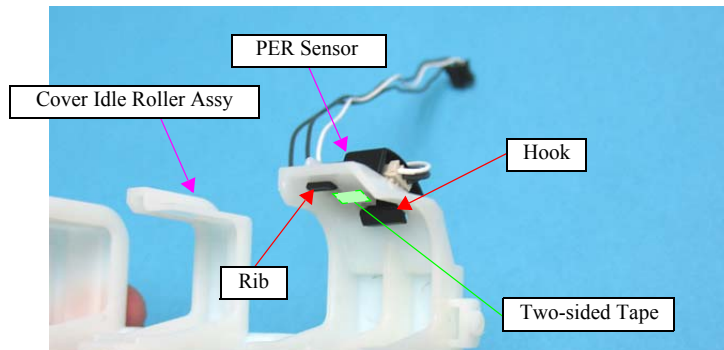

Figure 4-206. Removing the PER Sensor
- When installing the PER Sensor, insert its rib into the hole of the Cover Idle Roller Assy, and then insert the sensor's hook into the hole of the assy as shown in *Figure.4-206*.